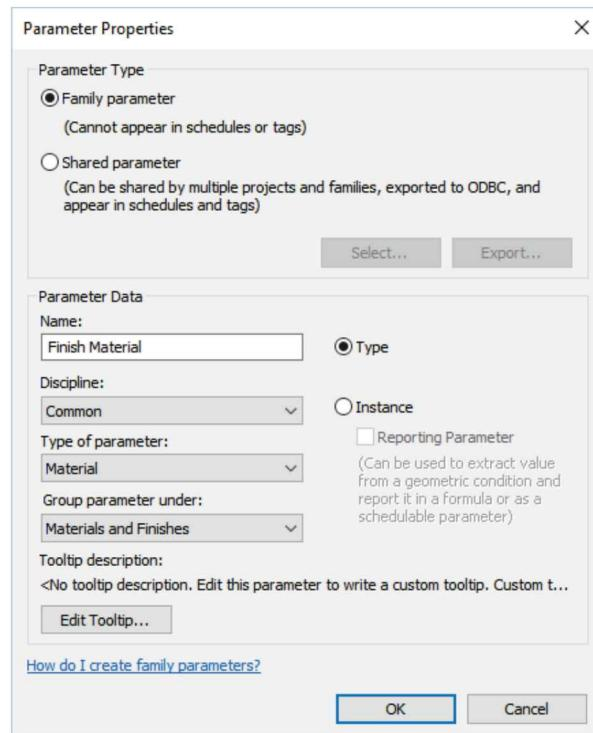

FIGURE 17-4.16 Creating a new parameter
31. Modify the *Parameter Properties* dialog as shown in Figure 17-4.16.